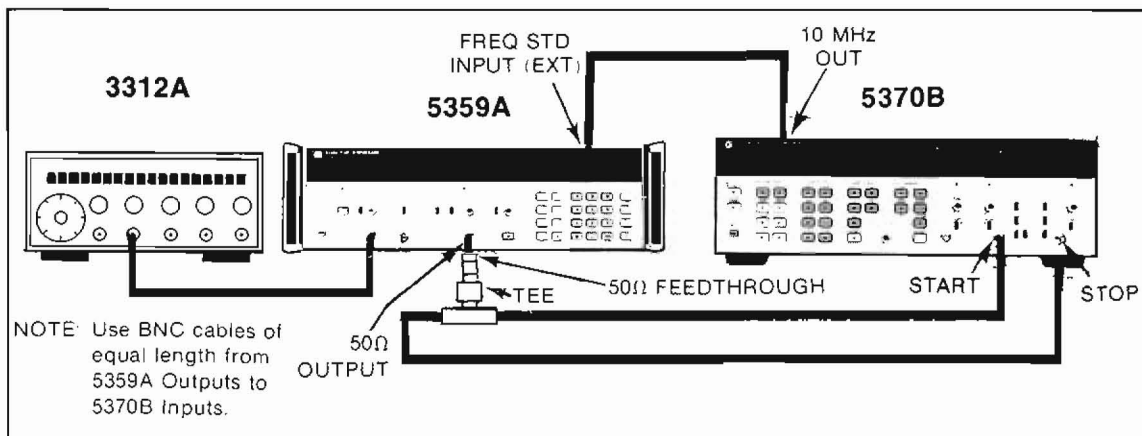

Fig4.3. correct! Figure 4-3. Setup for WIDTH Performance Test
4. Connect the 3312A, 5359A and 5370B as shown in Figure 4-3.
- d. Connect the 5359A and 5370B as shown in *Figure 4-3*.